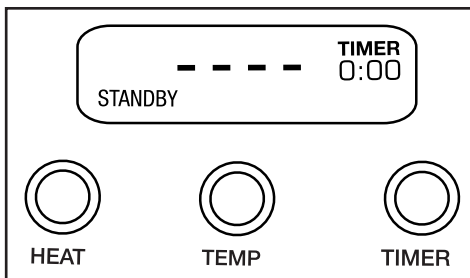

Figure 1
- 120 volt units are supplied with a molded 3-prong grounding-type plug and should be used in combination with a properly connected grounding-type outlet, as shown in Figure 1.
NOTE: The Induction Range requires induction-ready cookware. If the pan is not induction ready, it will not register on the induction range. The LCD display will show “-----” and “STANDBY” will flash (as seen in figure 1) when attempting to select a heat mode without an induction-ready